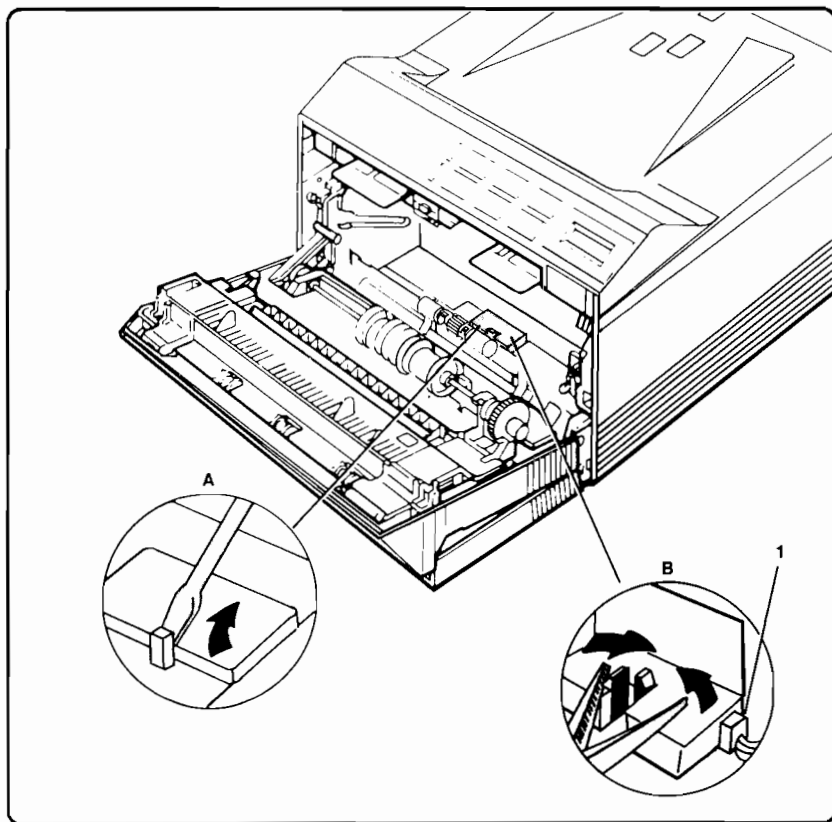
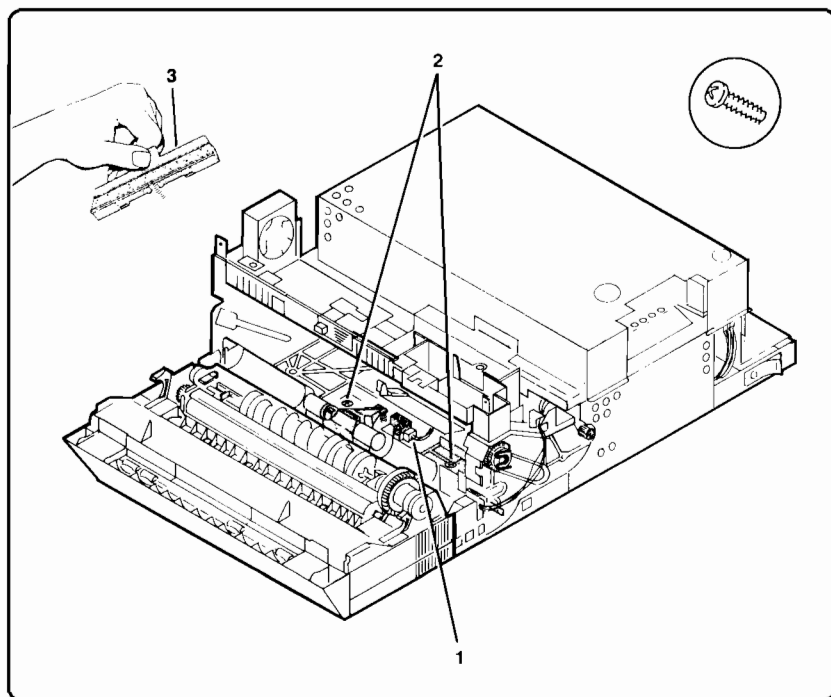

Figure 6-36. Input Paper Sensor (PS1) Removal
Figure 6-46. Input Feed Roller Assembly Removal (continued)
2. Unclamp and open the Input Paper Sensor Shield using a small flat-head screwdriver (see Figure 6-36, detail A).
3. Unplug the Input Paper Sensor Cable Connector (see Figure 6-36, detail B, callout 1).
4. Unclamp and remove PS1 using a pair of small needle nose pliers (see Figure 6-36, detail B).
5. Open the Input Paper Sensor Shield and unplug the Input Paper Sensor (PS1) connector (see Figure 6-36, callout 1 and Figure 6-46, callout 1).
6. Remove the Separation Pad by grasping the clear mylar strip and firmly pulling straight up (see Figure 6-46, callout 3).
7. Remove the screws (2) securing the Input Feed Roller Assembly using a Phillips screwdriver with a 1-inch shaft (see Figure 6-46, callout 2).